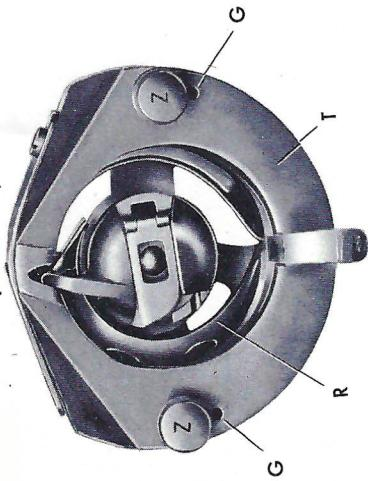

Fig. 19
- d.* Snap out pins "Z" (Figure 19) by spreading them apart, and, with left hand, remove race plate "T" by turning it away from the race.